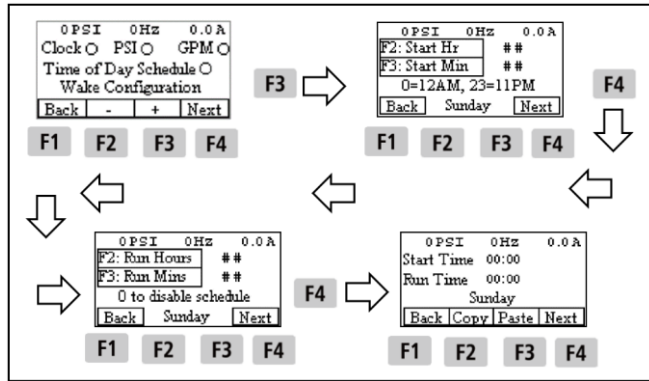

Figure 12-16. Setting Time Of Day Start Active Periods.
8. From the Wake Configuration screen, press the **F4** Next key to get to the Sunday start time screen (see Figure 12-16). Set the start time using Method 2 outlined in **11 Setting Variable Frequency Drive Parameters** section.
9. Press the **F4** Next key to get to the Sunday run time screen (see Figure 12-16). Set the duration using Method 2 outlined in **11 Setting Variable Frequency Drive Parameters** section.
10. Press the **F4** Next key to get to the Sunday review screen (see Figure 12-16) showing the start time and the run time for Sunday.